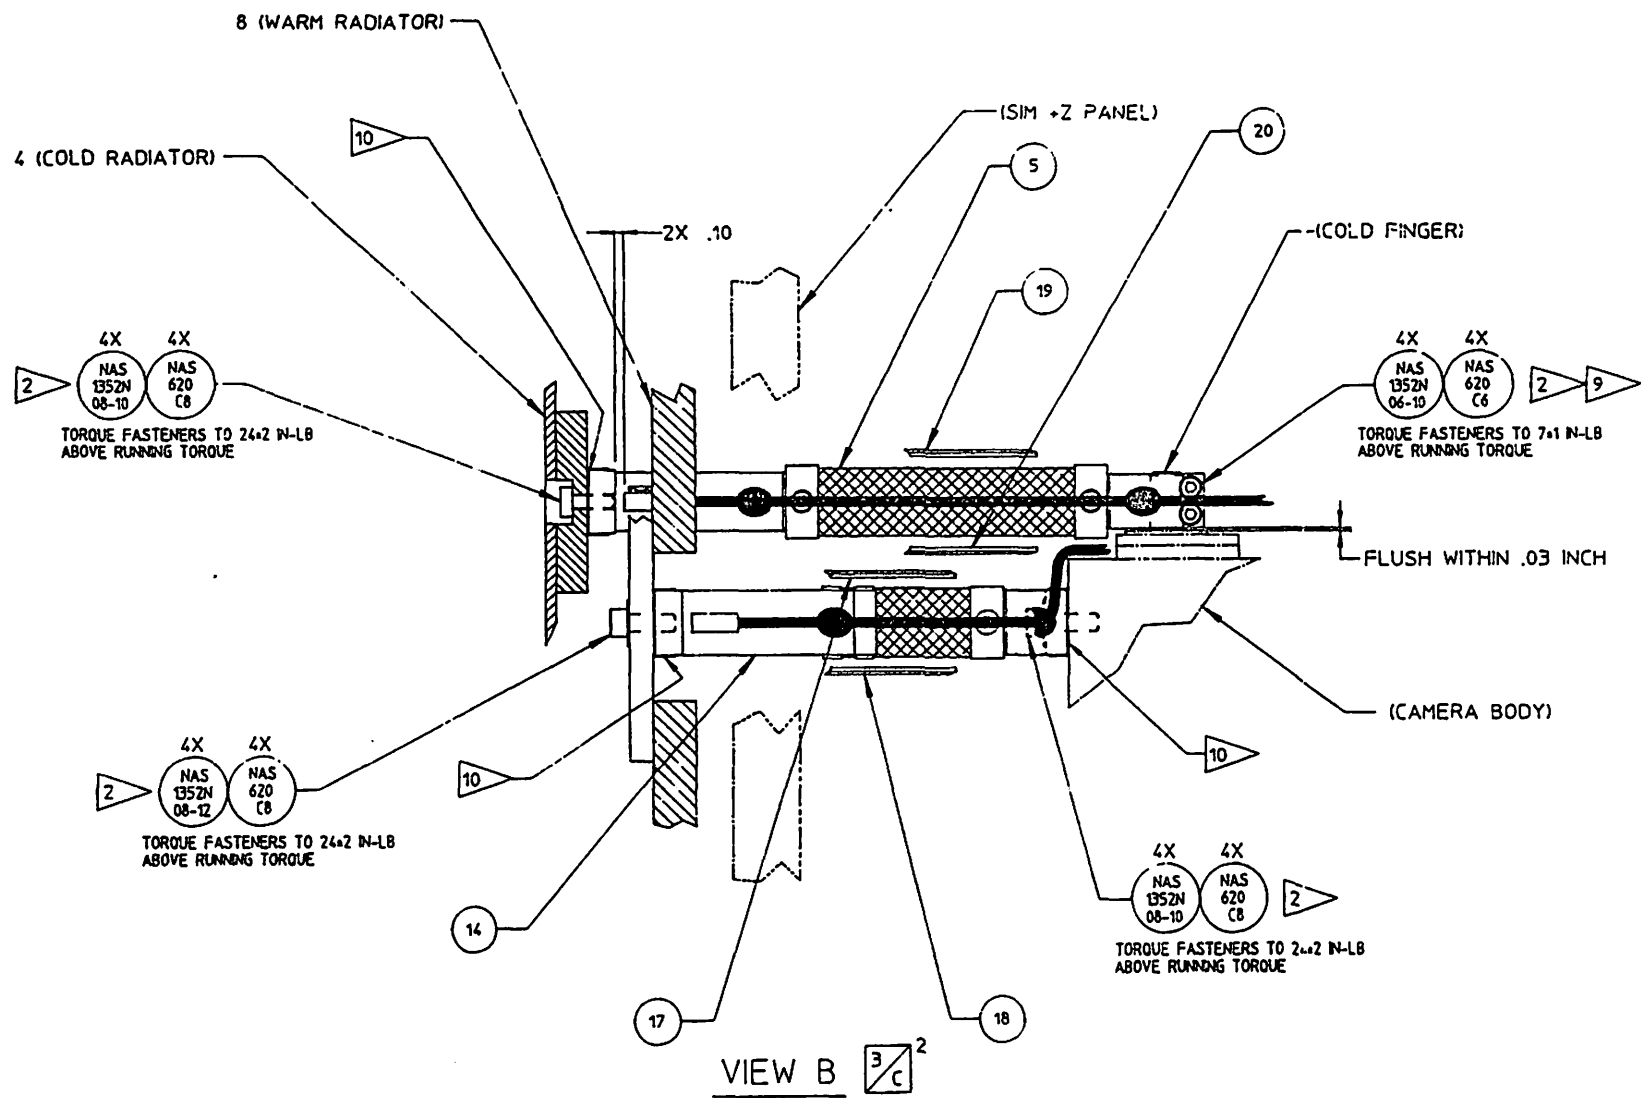

Fig. 6 Warm and Cold Strap Assembly
23. Torque #8 Warm and Cold Strap hardware per the TCS Installation Drawing (849AC500003). See Fig.6. Make sure that strap flanges make metal to metal contact as they are brought into contact with radiator.